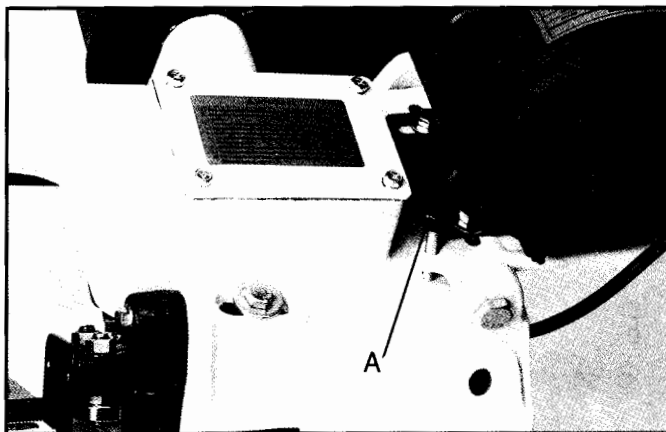

Fig. 3
8. Loosen motor plate tensioning bolt (A, Fig. 3) fully. Lift motor with one hand while the other hand places V-belt on both pulleys. Carefully let motor return to its original position.
9. Tension belt by tightening bolt (A, Fig. 3) until finger pressure on the belt between the two pulleys causes approximately 1/2" deflection. Close pulley cover.